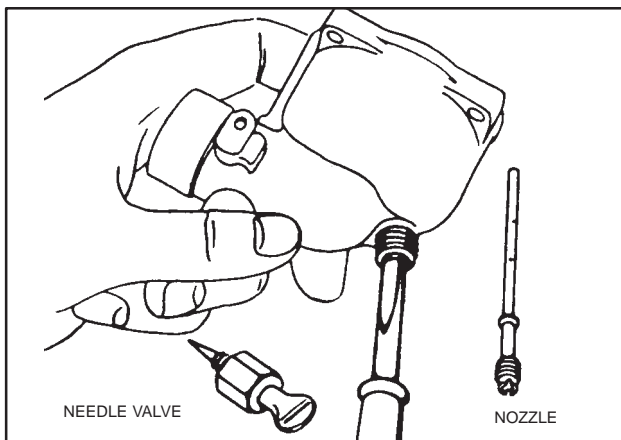

Fig. 272 – REMOVING NOZZLE
3. Remove nozzle with Tool #19280, Carburetor Screwdriver, Fig. 272. Use of Tool #19280 will help to prevent damage to threads in lower carburetor body.